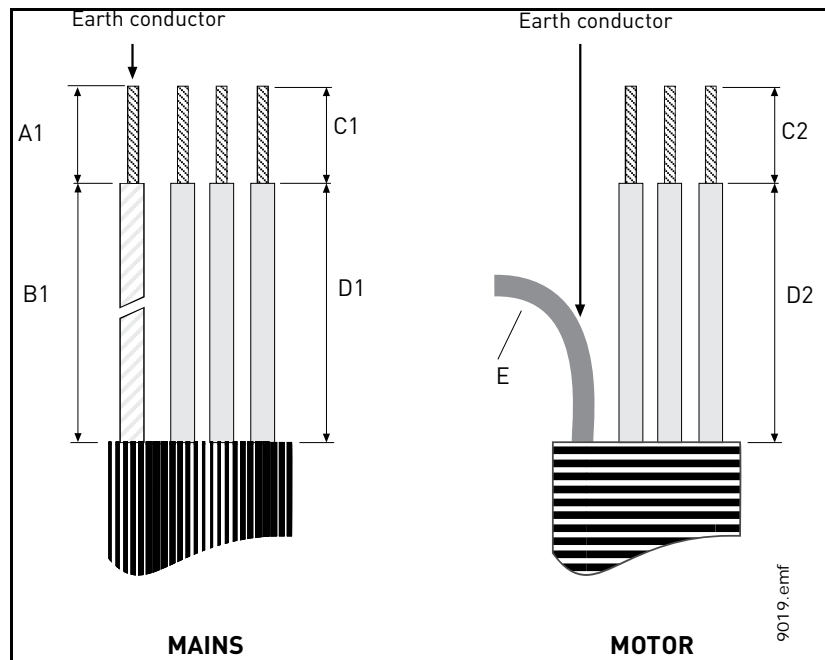
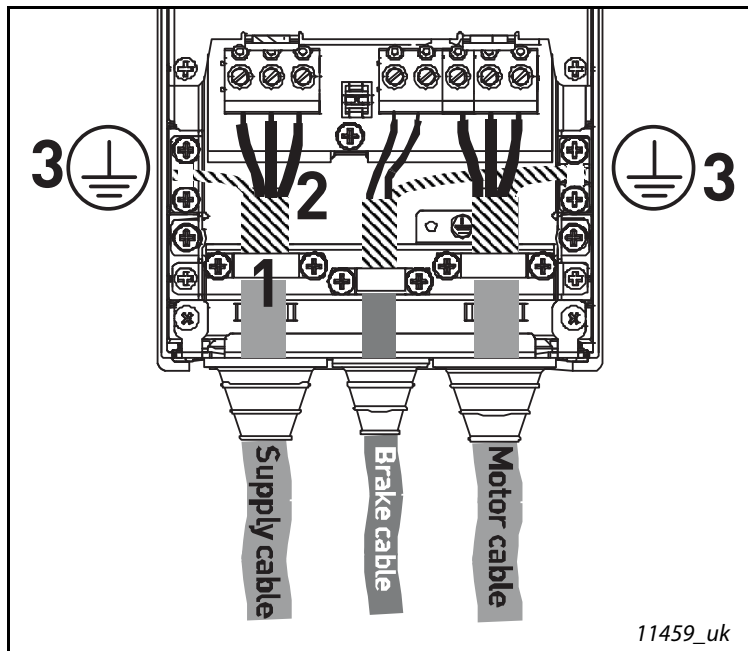

Figure 17. Stripping of cables
Figure 24.
| 7 | <p>Connect the stripped cables (see Figure 17 and Table 10) as shown in Figure 24.</p> <ul style="list-style-type: none"> • Expose the shield of all three cables in order to make a 360-degree connection with the cable clamp (1). • Connect the (phase) conductors of the supply, brake and motor cables into their respective terminals (2). • Form the rest of the cable shield of all three cables into “pigtails” and make a grounding connection with a clamp as shown in Figure 24 (3). Make the pigtails just long enough to reach and be fixed to the terminal - not longer. |